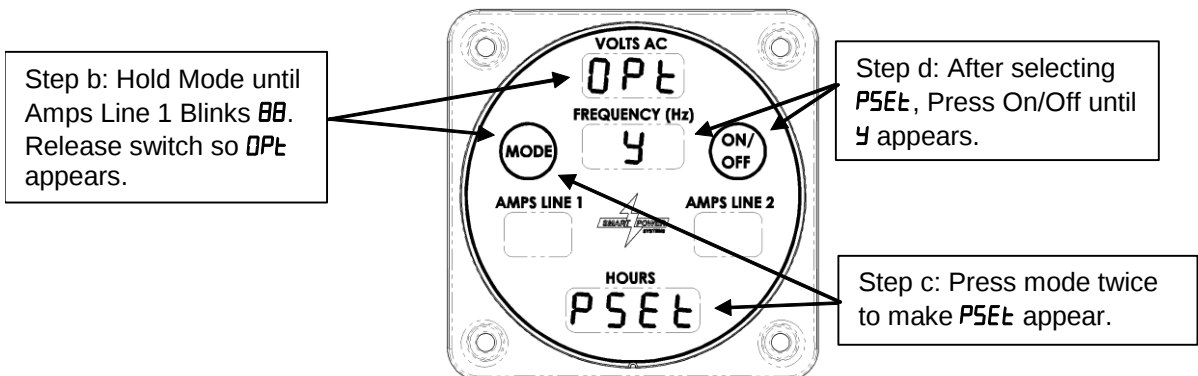

Figure 31 – Enabling Pump Set Option
- b. Press and hold the Mode button until the Amps Line 1 field blinks with **BB** (more than 10 seconds). Release the button while the Amps Line 1 field is blinking to make **0PLe** appear. Reference Figure 31.